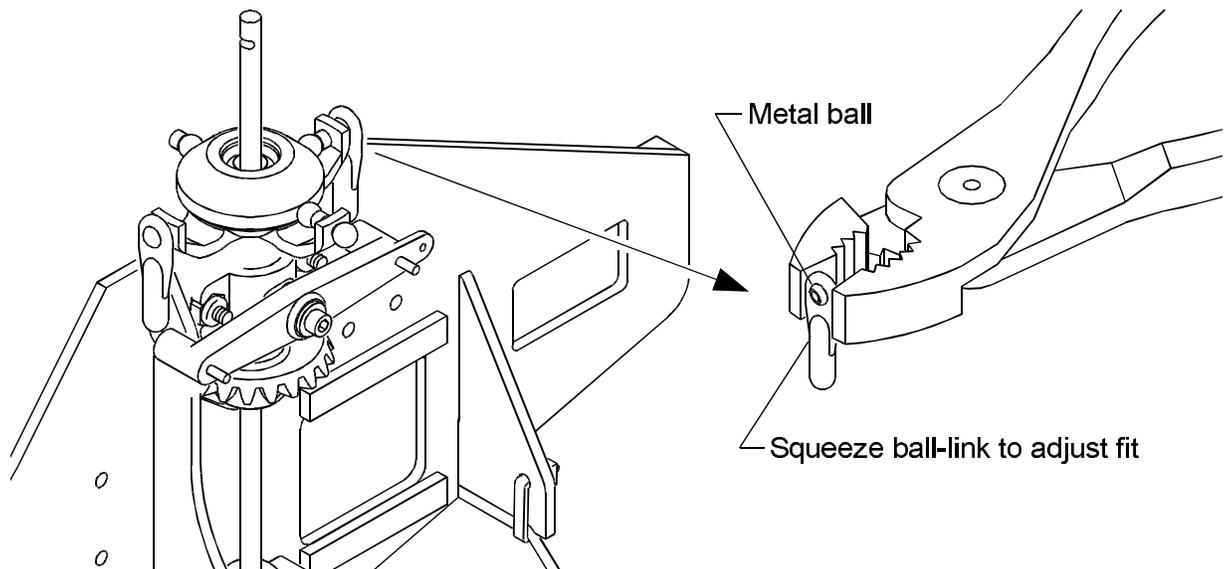

Figure 10-6.
- ❑ 17. The plastic balls on the swashplate arms vary slightly in size. If the ball-joints are too tight, the swashplate may not operate smoothly. To get an idea of the proper fit, snap a ball-link onto a metal universal ball and move the link around. To loosen a tight ball-link, remove the link from the swashplate and snap it onto a metal ball. Gently squeeze the link with a pair of pliers as shown in Fig. 10-6 to deform the plastic slightly.